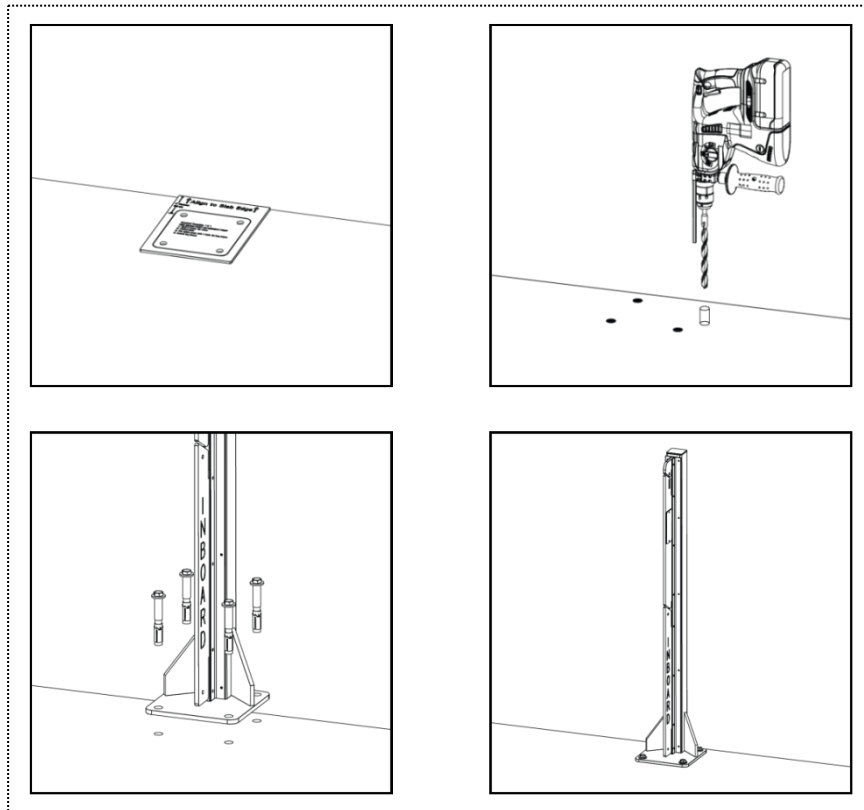

Figure 55
D. How to Install a Midway Post (Fig. 55)